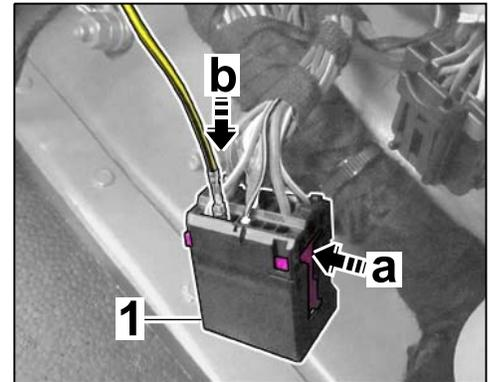

Figure 6
- 2.3.3 Release secondary lock on pin connector socket ⇒ *Figure 6-1-* (⇒ *Figure 6-a-*).
Insert pin contact of line (BK/YE) into chamber 2 ⇒ *Figure 6-b-*.